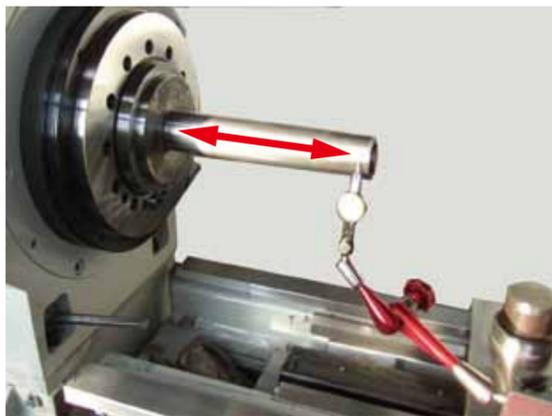

Fig.2
2) Apply the stylus of the indicator to the horizontal plane of the test bar. Move the carriage along Z-axis and measure the maximal difference. (see Fig. 2).